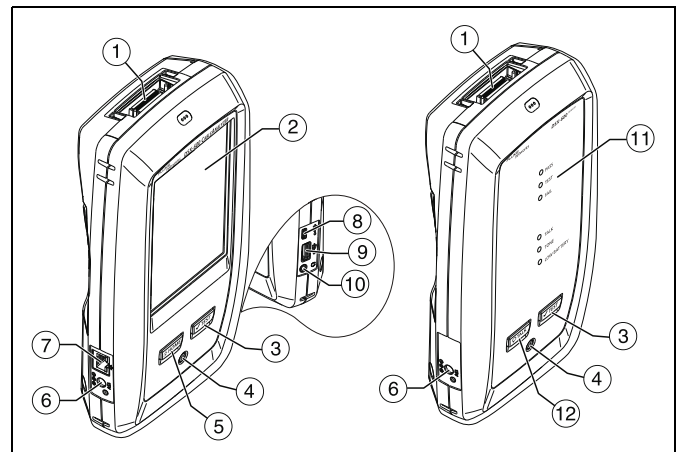

Figure 1. Connectors, Keys, and LEDs
Charge the battery if necessary. Connect the AC adapter to AC power and to the adapter connector (⑥) shown in Figure 1. You can use the tester while the battery charges.